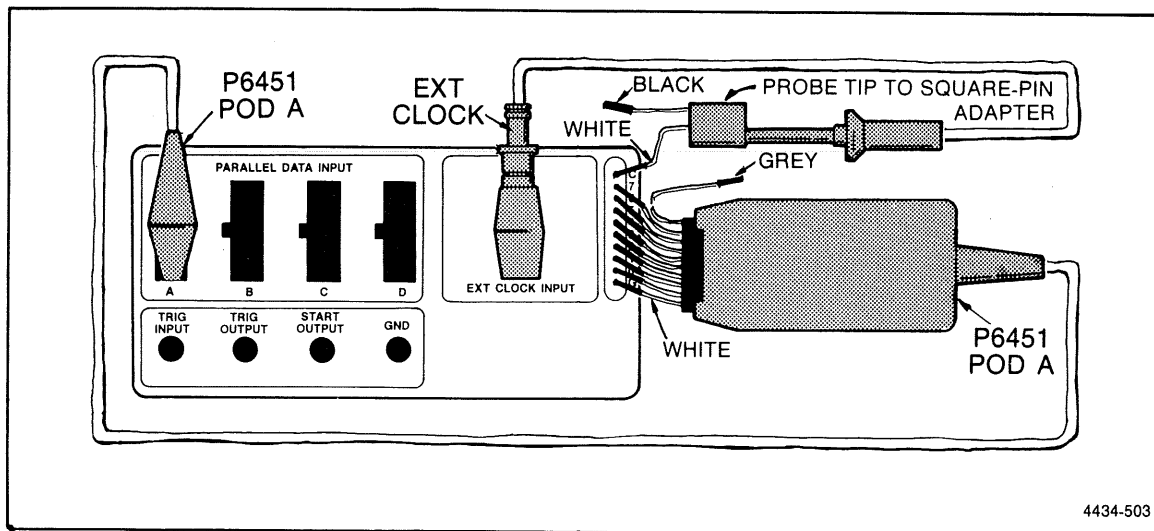

Figure 2-9. 318A Parallel data acquisition check setup.
- a. Power-up the 318A and connect the P6107 External Clock probe tip to TEST OUTPUT-C on the right side pannel. Refer to Figure 2-9.